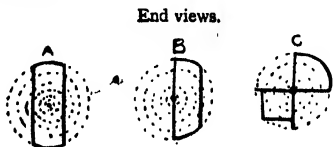

FIG. 52.—SHRINKAGE OF TIMBER
3. Three tree-trunks are suggested in section by the dotted lines in the sketches A, B and C (Fig. 52). The heavy lines indicate the shape of some timber cut from the trees. Show by sketches the effect of shrinkage on these pieces, and give reasons to account for the change of shape which would take place in each case.